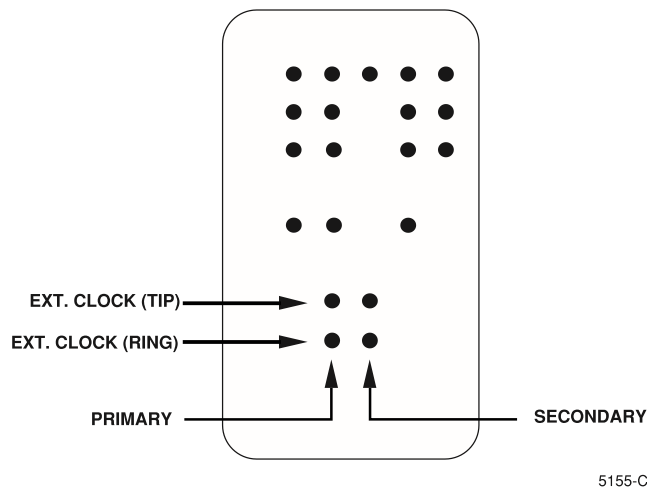

Figure 4-10. External Timing Connections (Upper Wire-Wrap Pin Block)
3. Connect the timing cable wire pairs to the appropriate pins on the upper wire-wrap pin block as shown in Figure 4-10.